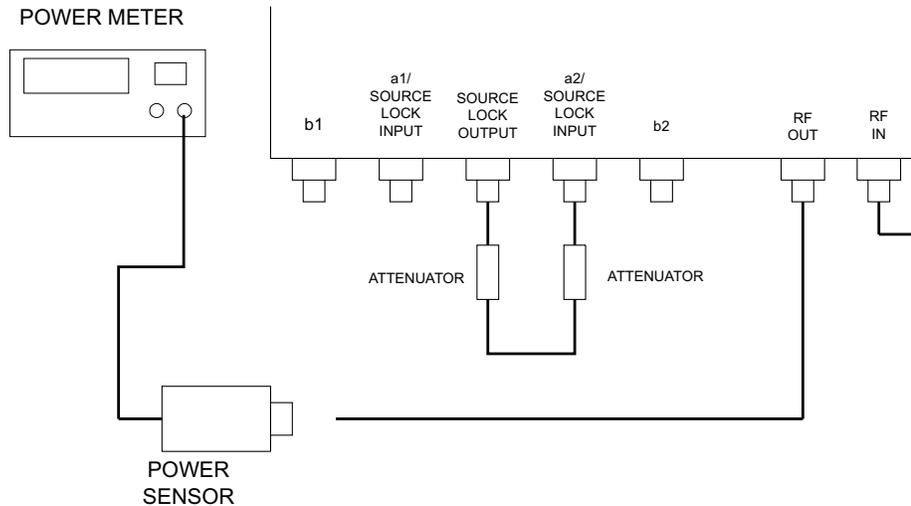

Figure 4-4. b2 Channel Verification Setup
Step 2. Set up the equipment per Figure 4-4.